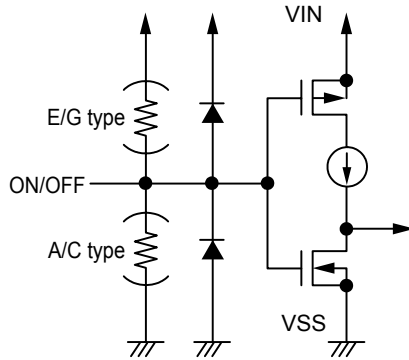

Figure 24
The ON/OFF pin is configured as shown in **Figures 24** and **25**. In the S-1711 Series A/ C/ E/ G types, the ON/OFF pin is internally pulled up or pulled down to VSS when in the floating status, so the VOUT pin is set to the VSS level. In the S-1711 Series B/ D/ F/ H types, the ON/OFF pin is not internally pulled up or pulled down, so do not use these types with the ON/OFF pin in the floating status. When the ON/OFF pin is not used in the S-1711 Series B/ D/ F/ H types, connect the pin to the VIN pin in the B/ D types, and connect it to the VSS pin in the F/ H types.
*1. Note with caution that the power consumption of the IC is higher by that to be input to pull-up resistance or pull-down resistance the power off pin when the S-1711 Series A/ C types operated with the ON/OFF pin connected to VIN and the S-1711 Series E/ G types with the ON/OFF pin connected to VSS (refer to **Figure 24**).